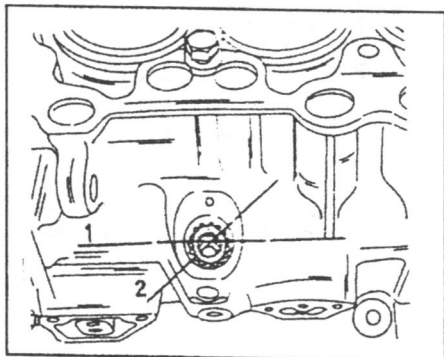

Fig. 1.79. — Fitting the oil pump/distributor shaft.
- Insert the drive shaft into the cylinder block with the drive slot in the position (1) in Fig. 1.79. The smaller of the two segments must face towards the cylinder block.